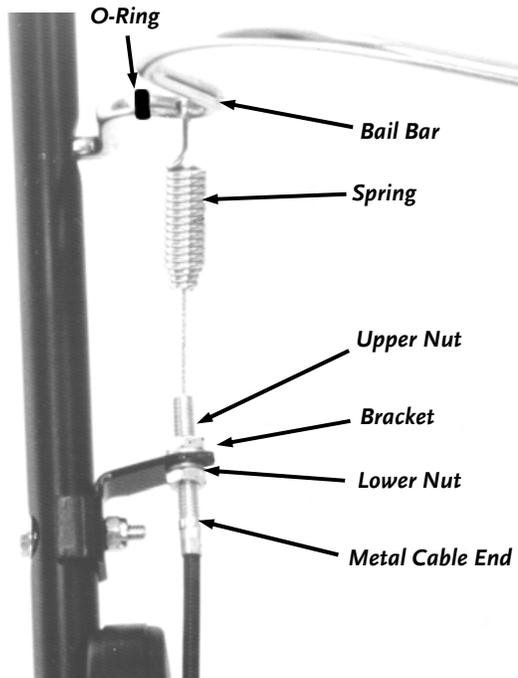

Figure 46
Before adjusting the trimmer control cable, check that the belt mounting is on the correct side of the idler pulleys (see **Figure 34** on page 22), and not frayed, worn or stretched. Also make sure the spring is attached to the bail bar (**Figure 46**).
1. Loosen the upper Control Cable Adjustment Nut, leaving about 1/8" of space between the Nut and Bracket (**Figure 46**).